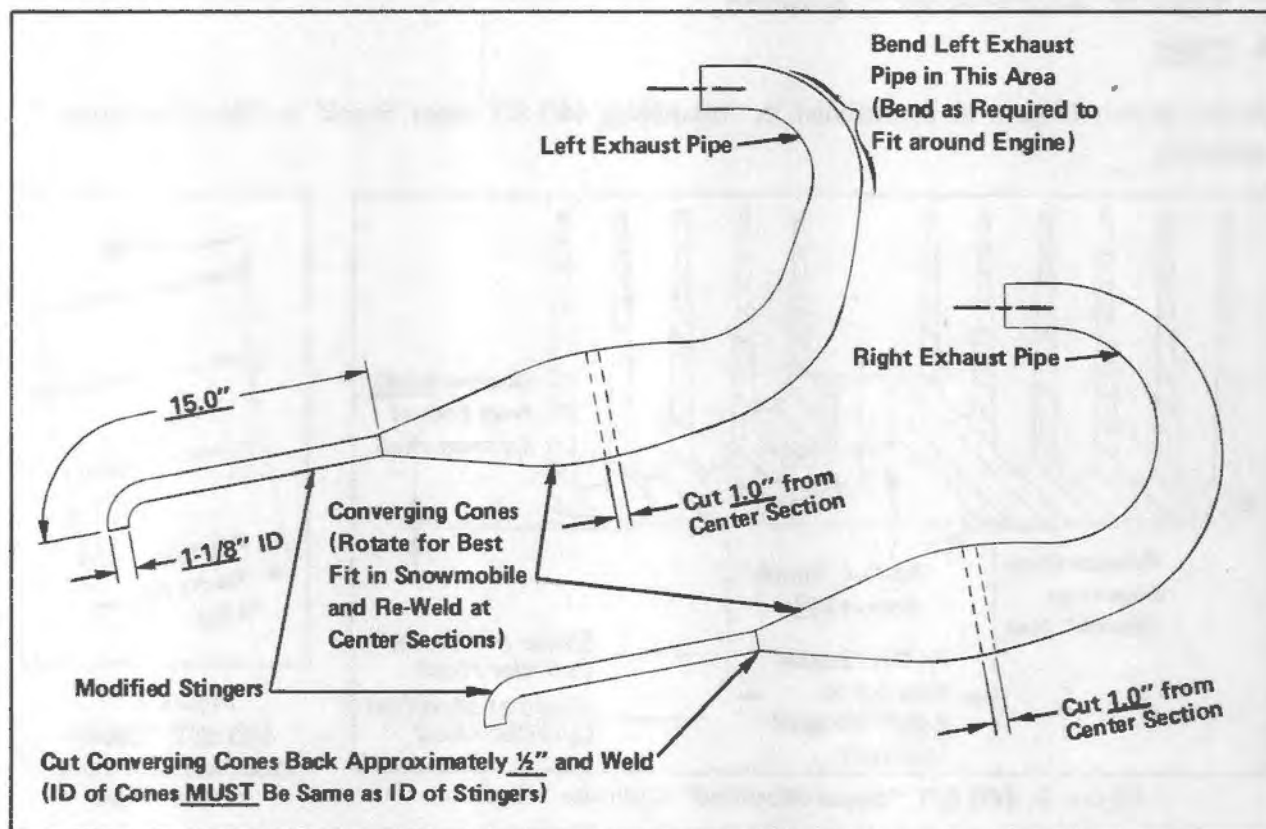

Figure 5. 440 S/T "Super-Modified" Exhaust Pipes
1. Cut 1.0" (25.4mm) from center section of each exhaust pipe. (Figure 5)
*NOTE: Spring hooks will require repositioning on exhaust pipes to give sufficient spring tension. Left exhaust pipe (PTO side) must be heated and CAREFULLY bent to fit around engine rewind housing. Bend left exhaust pipe in area of first bend (just after header pipe - Figure 5).*
2. Cut approximately 1/2" (12.7mm) from end of each converging cone so that inside diameter (ID) of cones is enlarged to 1-1/8" (28.58mm) (same ID as replacement stinger). (Figure 5)
3. Weld modified stingers [1-1/8\" ID x 0.040\" thick (approximately) x 15\" long (28.58mm x 1.02mm x 38.1cm) - Figure 5] to converging cones. Be sure that welds are smooth and do not restrict exhaust.